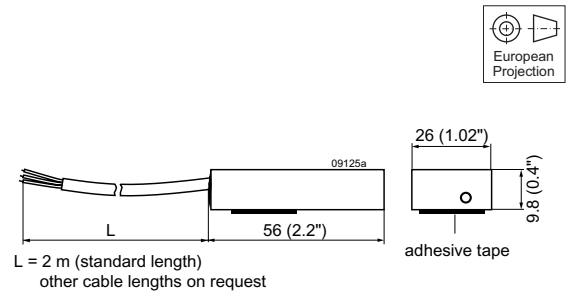

*Fig. 27*
- Cage clamp adapter HZZ00144-G; see fig. 27